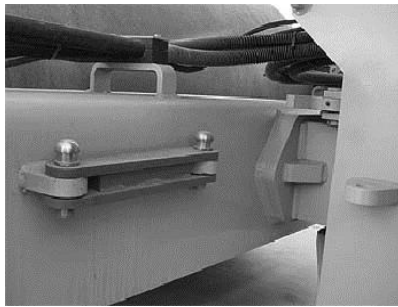

Figure 2-10
- Make sure the locking device of front and rear frame are separated (Figure 2-10) .